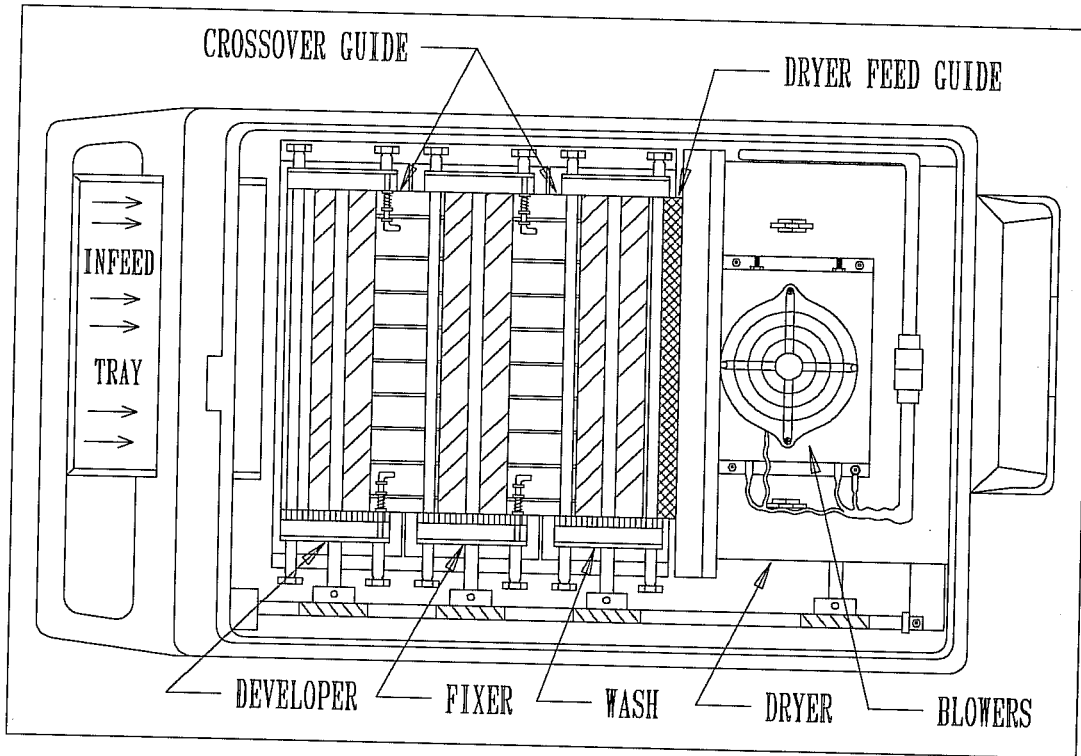

FIGURE 7-1 AX700LE SERIES INTERIOR TOP VIEW
- 3.5 Check the chemistry levels. Make sure chemicals are to top of the overflow tubes. (See Fig. 7-1) Also check the chemistry level of the storage tanks.
7.1.1 Open drain valves (See Fig. 7-1)